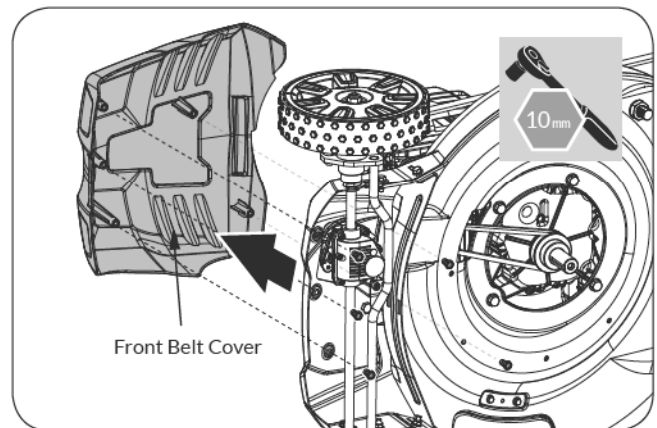

Figure 25
3. Remove the five bolts fix the front belt cover and removing the front belt cover. (See **Figure 25**)